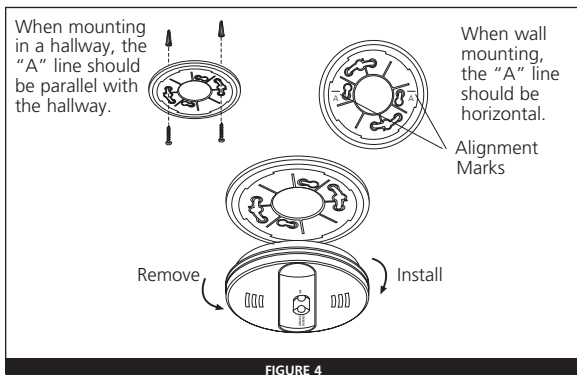

FIGURE 4
3. After selecting the proper smoke alarm location as described in section 1, attach the mounting plate to the ceiling as shown in figure 4. For wall mounting see figure 4. Place mounting plate on the wall. Be sure the “A” line is horizontal. Use the screws and anchors provided to secure the mounting plate (use 3/16” drill bit for anchor holes).